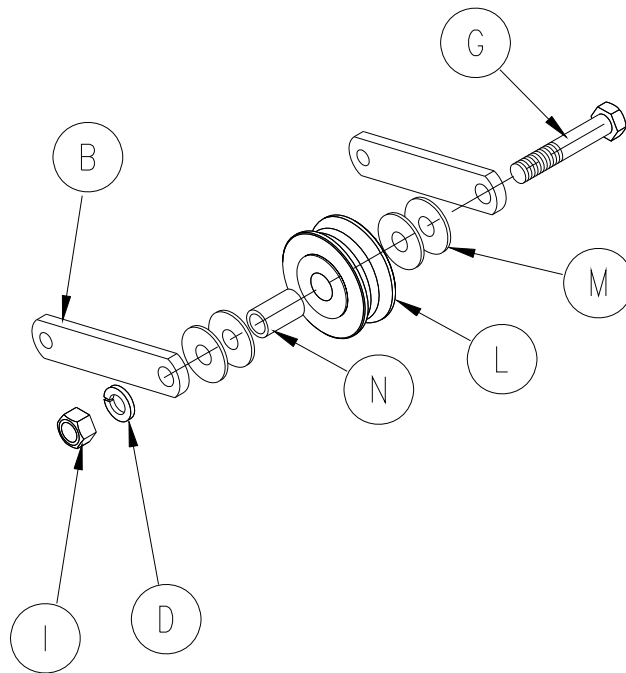

Figure 2-2.
2. Refer to figure 2-2. Assemble the idler cable sheave (L) and mounting brackets (B). Use the 5/8-11 x 3-1/2 HHCS (G),